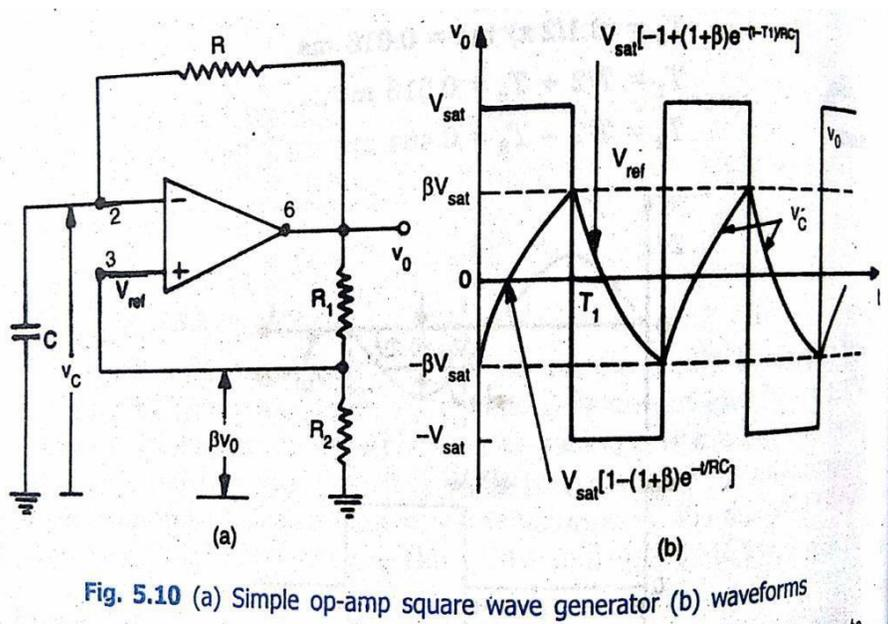

Fig. 5.10 (a) Simple op-amp square wave generator (b) waveforms
- In Figure 5.10(a), fraction  $\beta = R_2/(R_1+R_2)$  of the output is fed back to the +ve input terminal. Thus the reference voltage  $V_{ref}$  is  $\beta V_o$  and may take values as  $+\beta V_{sat}$  or  $-\beta V_{sat}$ .